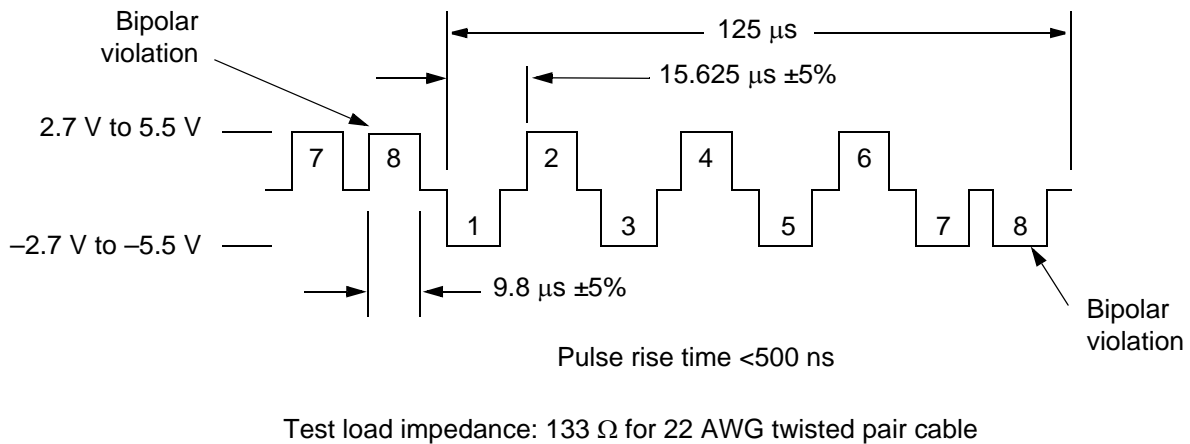

Figure 4-17. CC Output Waveforms
- CC output waveforms must be as shown in Figure 4-17.